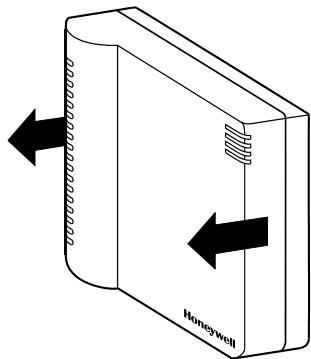

Fig. 6. Terminal cover removal
- Simply pull away the cover from the sub-base as shown in Fig. 6.